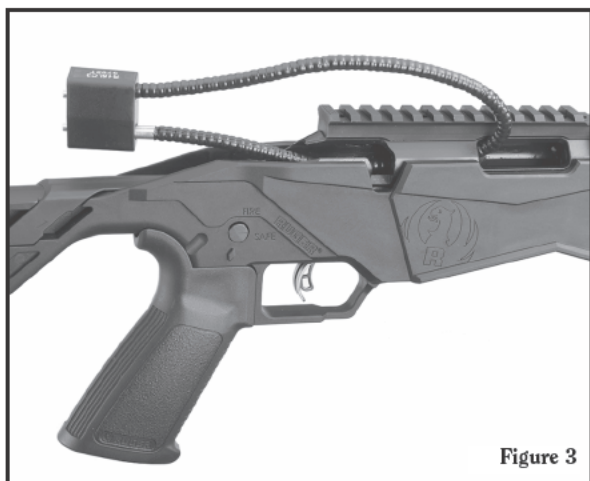

Figure 3
4. Insert the cable directly into to your **RUGER PRECISION® RIMFIRE** as shown below in Figure 3.